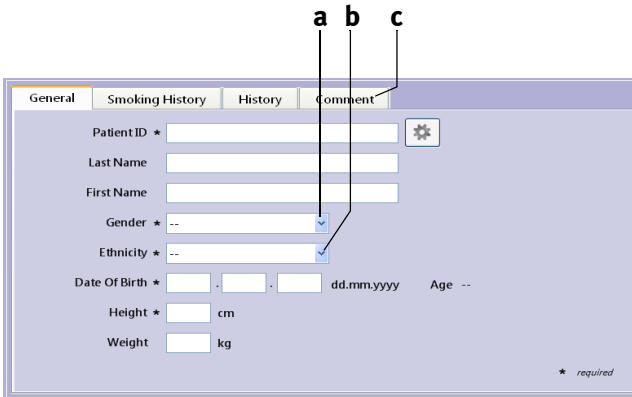

Fig. 3-3 Patient data window
- Click **a** (Fig. 3-3) to select the gender and press the **TAB** key.